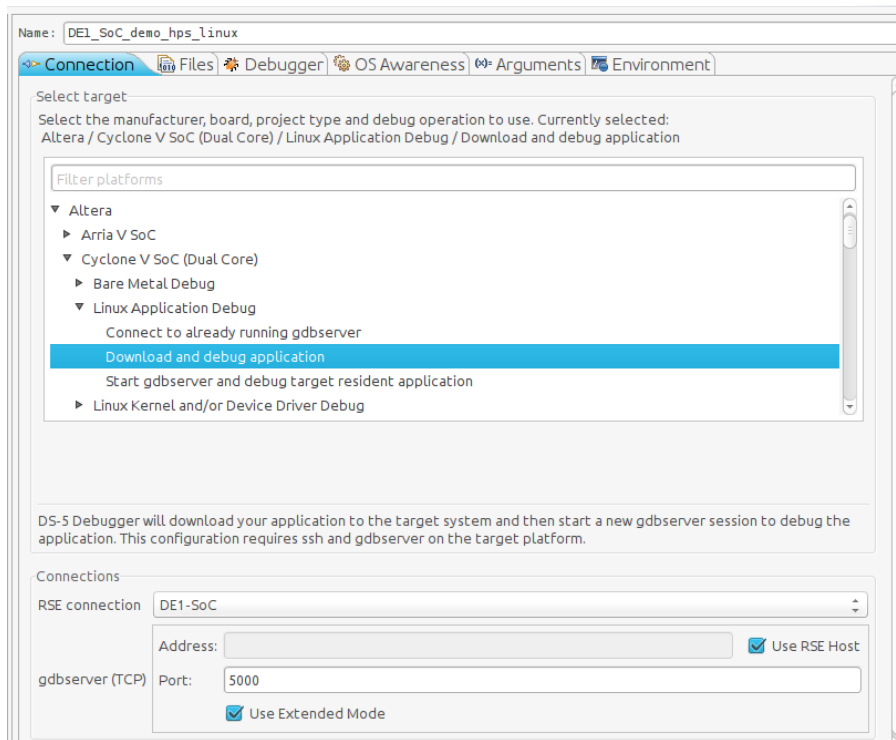

Figure 13-14. Debug Configuraton "Connection" Tab
- b. Set the “RSE connection” to “DE1-SoC”. This is the remote system connection we created earlier. You should have something similar to Figure 13-14.